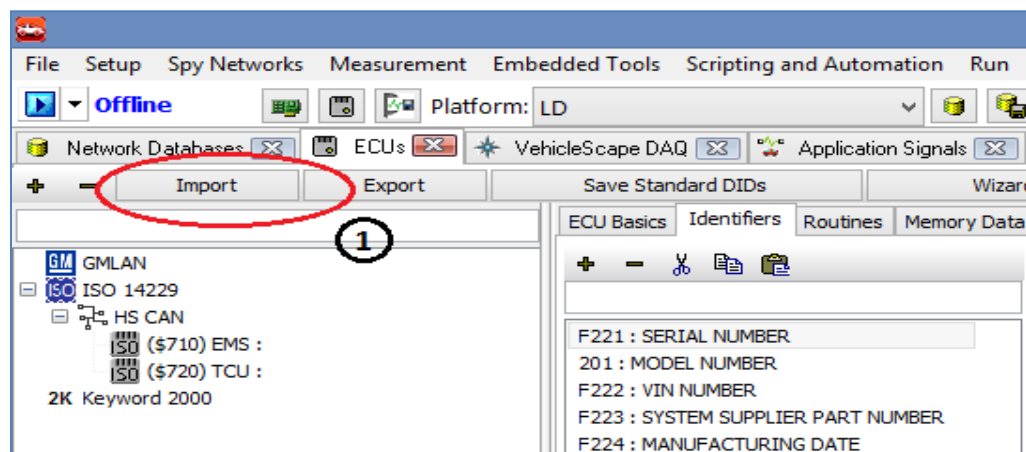

Figure 10: Settings to Import a .odx or .cdd file
- Click on 'Import' button (Figure 10 (1)).
- In script(Refer Figure 10),